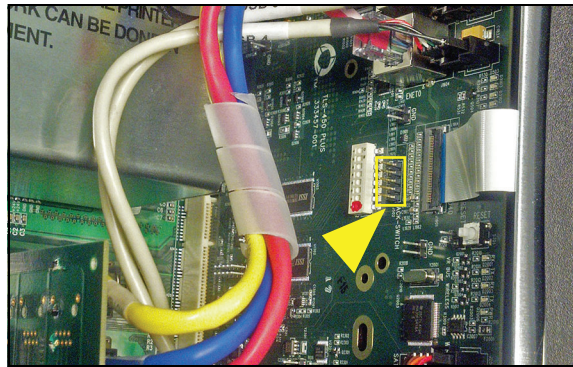

Figure 4. Remove the Acknowledge Switch Panel Cable From Its CPU Board Connector
- Figure 4. Remove the Acknowledge Switch Panel Cable From
- For right doors with an Acknowledge Switch panel, remove its cable from its connector (J502) on the CPU board (see Figure 4).
23. For right doors with an Acknowledge Switch panel, reconnect its cable to connector (J502) on the CPU board (ref. Figure 4).